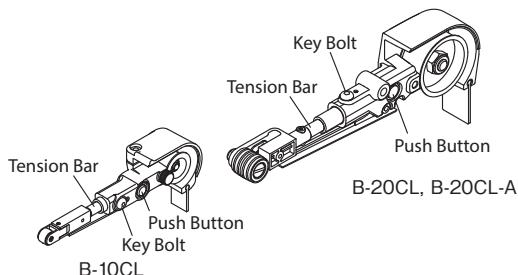

Fig.14
a) B-10CL, B-20CL, B-20CL-A (Fig.14)